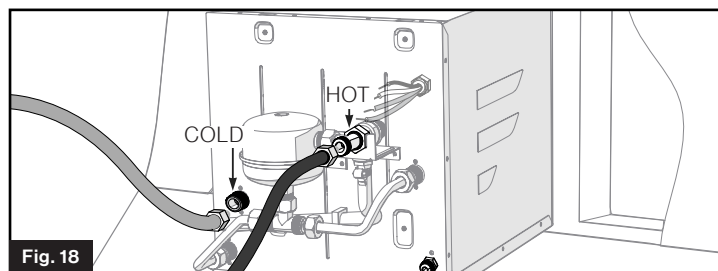

Fig. 18
1. Connect both HOT and COLD water lines to the appropriate $\frac{1}{2}$ " NPT fittings. (Fig. 18)